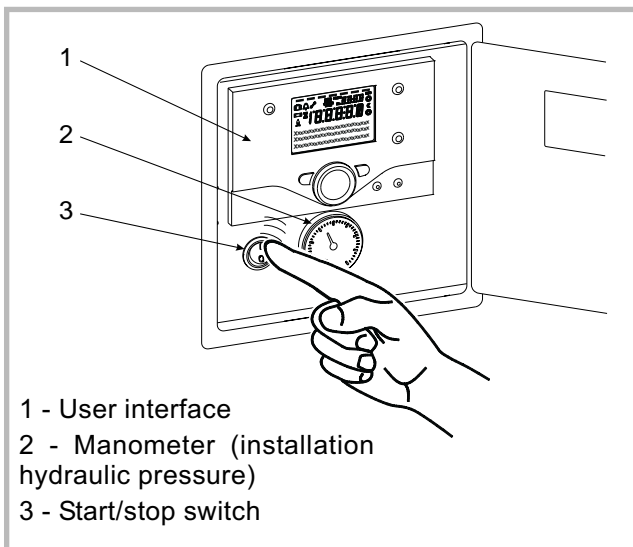

Figure 4 - Start-up
- Ensure that the installation is fully filled with water and has been correctly bled and that there is a sufficient pressure of 1.5 to 2 bars on the manometer (Ref. 2, fig. 4).